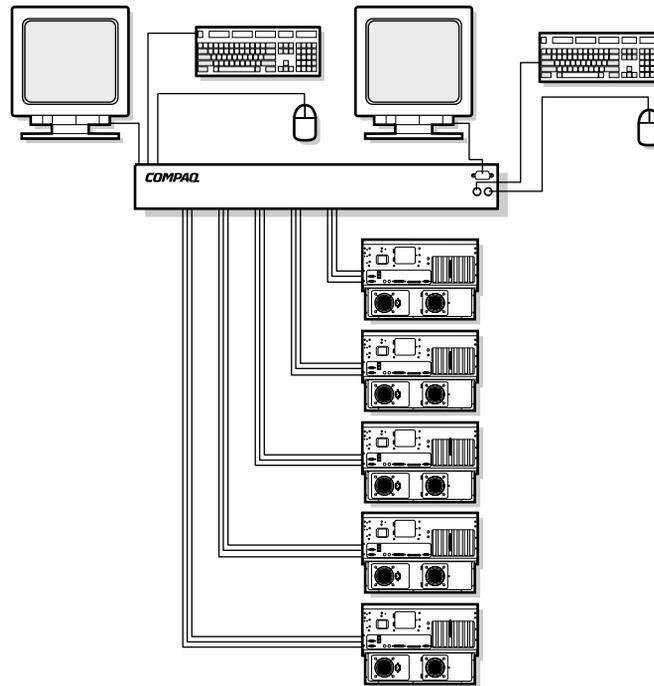

Figure 1-3. Dual console configuration
- The Dual Console 8-Port models allow you to set up two consoles, as shown in Figure 1-3, so that your switch system can be controlled from more than one location, or by two users.